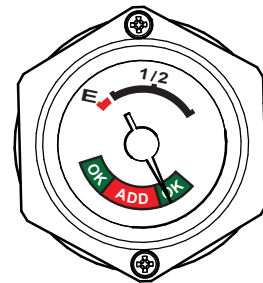

Figure 21. LPG Fuel Gauge
2. Read the **LPG fuel gauge** (Figure 21) on the propane tank to determine if the propane level is low.